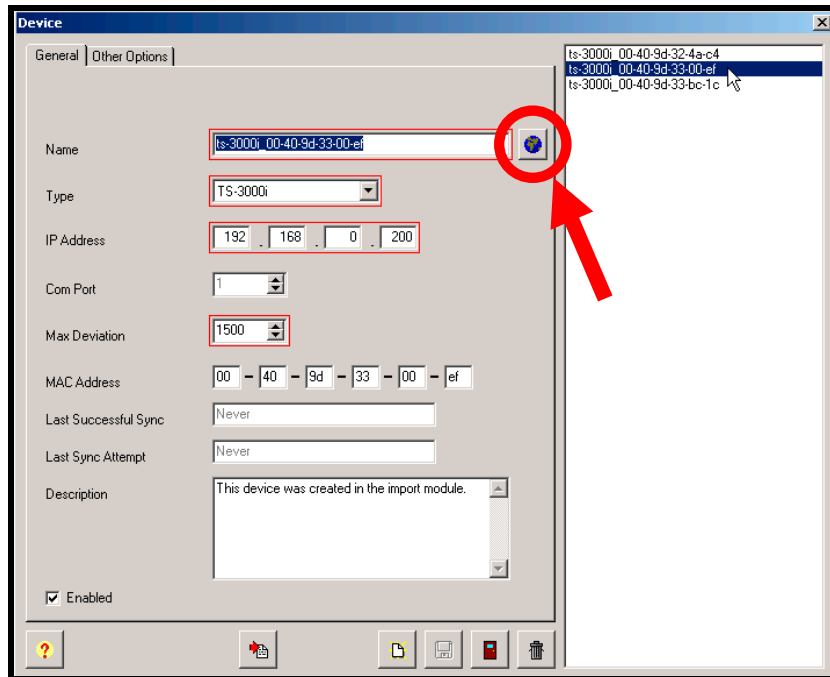

Figure 6-9: Imported TS-3000i Clocks
click on it, or click on the Edit button, and the device screen for that device will appear. All imported devices (TS-3000i clocks) will appear in a list on the right-hand side (see *Figure 6-9*). When you click on the device in the list the
Launch web browser button will appear to the right of the device (clock) name (see *Figure 6-9*).
Step 2. Select a Group from the expanded list and click on the **New**  button. The Device screen will appear (see *Figure 6-9*).